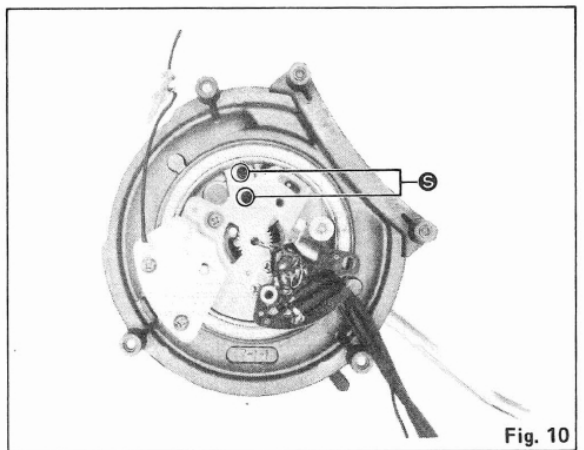

Fig. 10
22. Remove 2 screws **S** of the tone arm as shown in fig. 10.